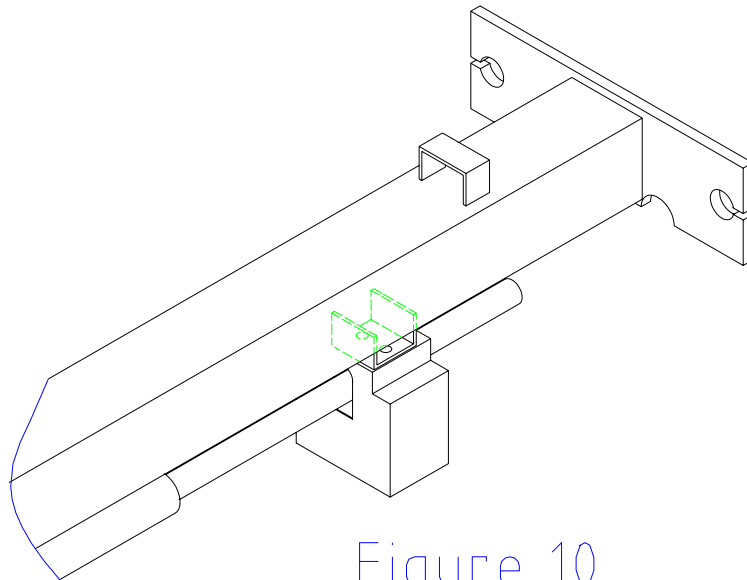

Figure 10
Using (2) 1/4-20 X 1/2 HHCS and (2) 1/4-20 Flange Lock Nuts attach the overhead switch assembly to the overhead beam as shown in figure 10.